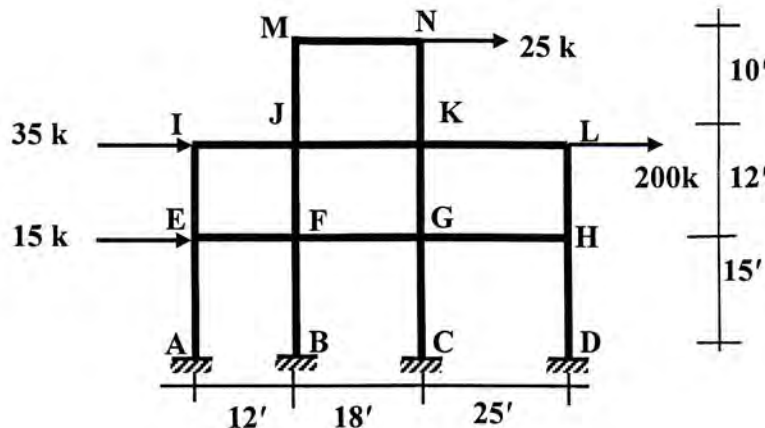

Figure 2
- [2] Determine the approximate Axial Force, Shear Force and Moment of the following columns **AE**, **BF**, **CG** and **DH** of the frame shown in Figure 2 by using the **Cantilever Method**.